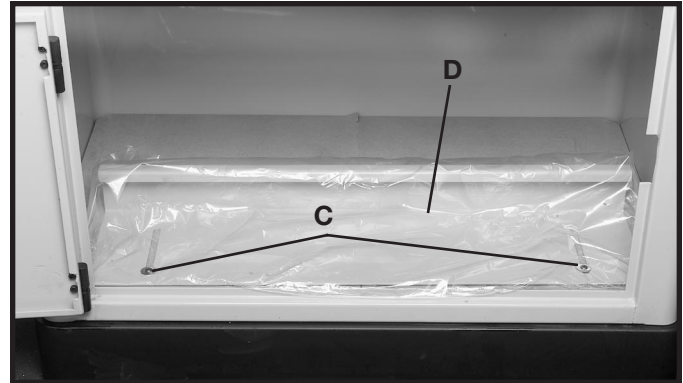

Fig. 2
2. Remove the two screws (C) Fig. 2, and remove the sanding fence (D).